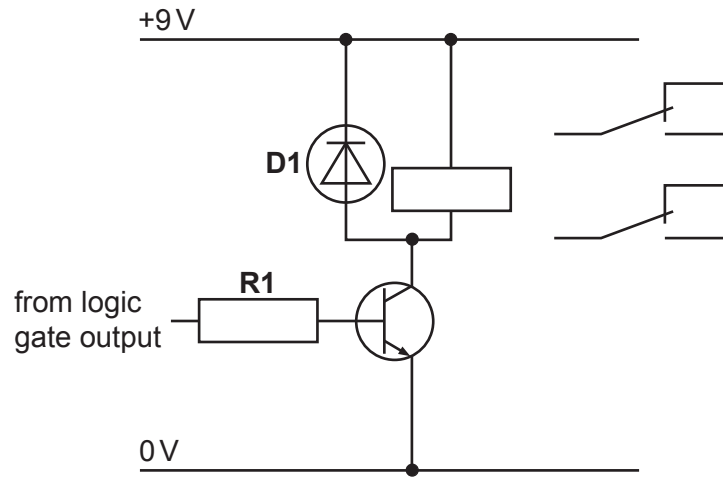

Fig. 12.4
- (iii) Fig. 12.4 shows the transistor circuit that will amplify the signal from the logic gates to operate a DPDT relay.